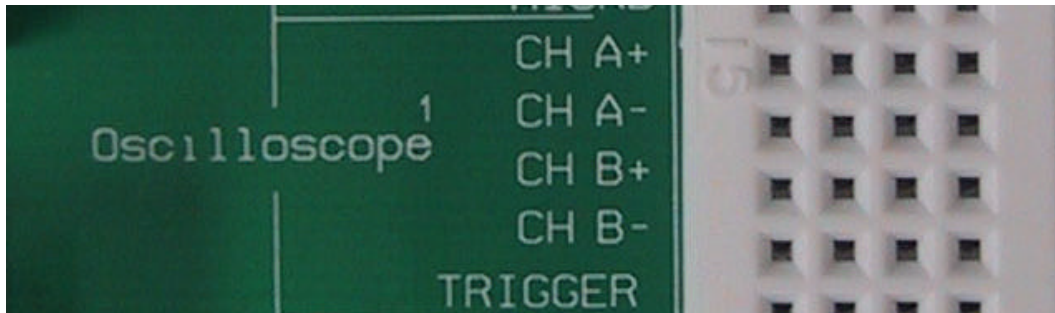

Figure 1.17
- E. Move the two wires from the Voltage+ and Voltage- nodes on the far left side of the NI ELVIS breadboard to the Oscilloscope CHA + and CHA – nodes which are shown in Figure 1.17. Connect the wires to 9V battery.
- B. Use the probe from channel 1 from the Tektronix oscilloscope to connect to the output of the function generator. Connect the probe to the red lead and the ground to the black lead as shown in Figure 1.17. **BE VERY CAREFUL WHEN USING THE PROBES. THESE CONNECTORS ARE VERY EXPENSIVE AND YOU MUST TREAT THEM WITH RESPECT!**